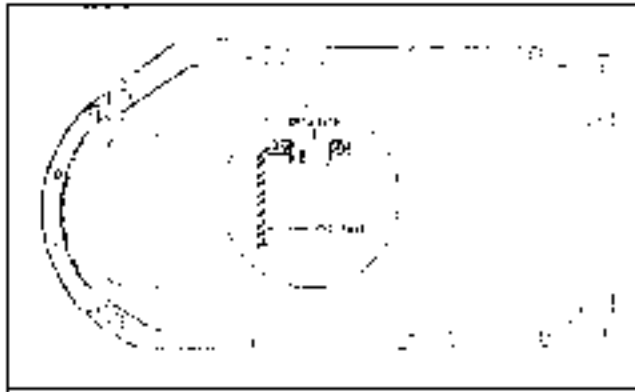

Fig. 6-100 Oil Pan Gasket Retainer
1. Install new gasket on oil pan. (Fig. 6-100, 6-101, 6-102).
1. Install new gasket on oil pan using gasket retainers (Figs. 6-100 and 101).